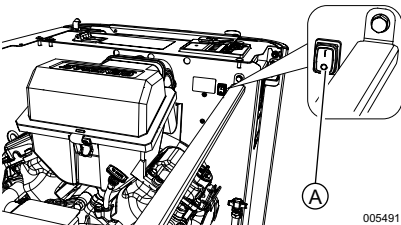

Figure 3-7. Internal Emergency Shutdown Switch (14–26kW)
See Figure 3-7. 14–26 kW generators also have an emergency shutdown switch (A) located inside generator.